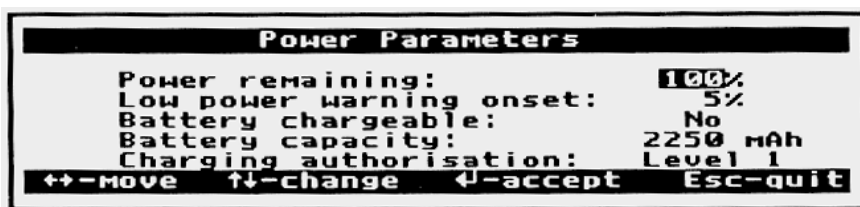

Figure 5.1: FS/2 or FS/3 Power Parameters Screen
4. If the FS/2 or FS/3 has been recharged, or if a power interruption has occurred (e.g., the batteries were replaced), then the FS/2 or FS/3 power parameters screen may appear, similar to Figure 5.1. If this is the case, change the settings as necessary (continue or stop recharging), and press **ESC** until you get a DOS prompt, and continue with step 6.